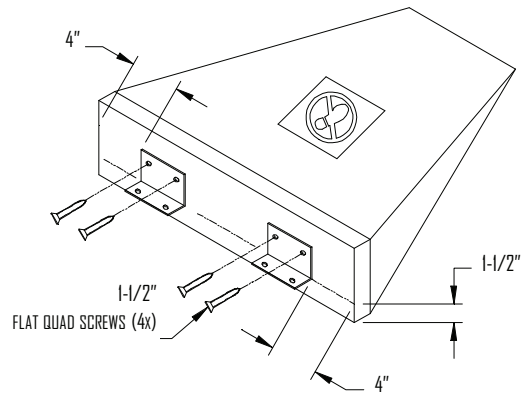

FIG. 11A
- Place both bottom pads so that the “No Step” patch is facing up (Fig. 11a).